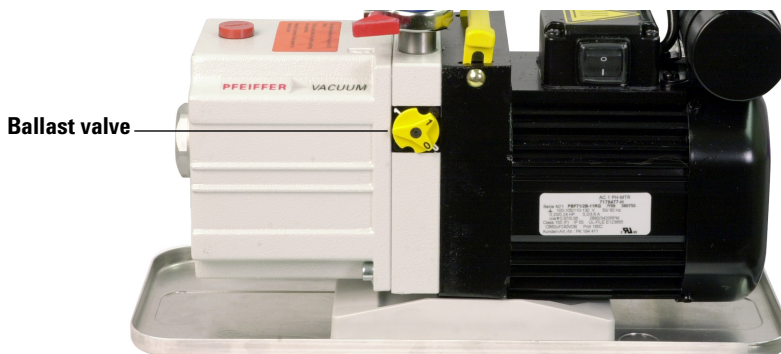

Figure 32 Minimizing ammonia damage
- 1 Turn the ballast valve on the foreline pump (Figure 32) until the 1s are aligned. The sound of the pump will get much louder.